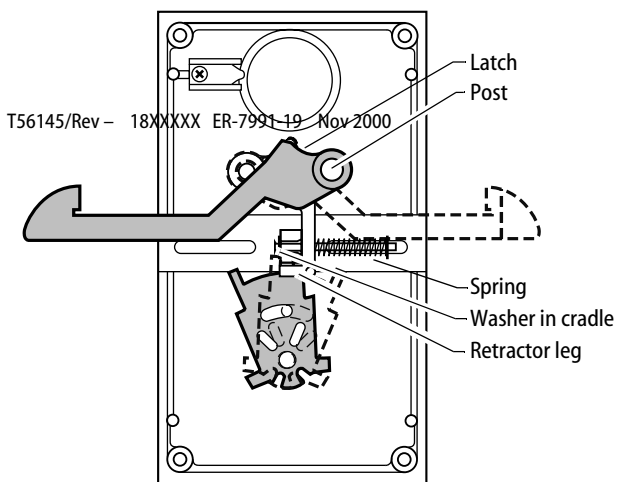

Figure 2
- 1 While compressing the spring on the latch, pull the latch off of the post. See Figure 2.
- 2 Turn the latch over and put the latch on the opposite post. See Figure 2.
- 3 Make sure that the washer fits into the recess of the cradle when the spring is released. See Figure 2.
- 4 Position the retractor leg so that it contacts and retracts the latch. See Figure 2.